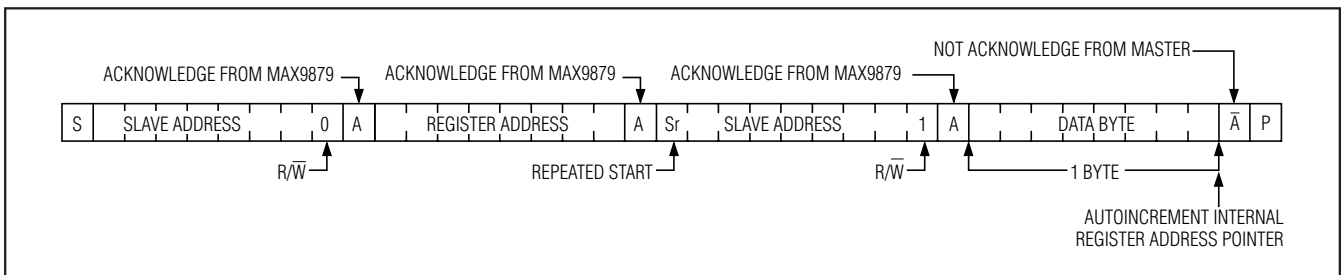
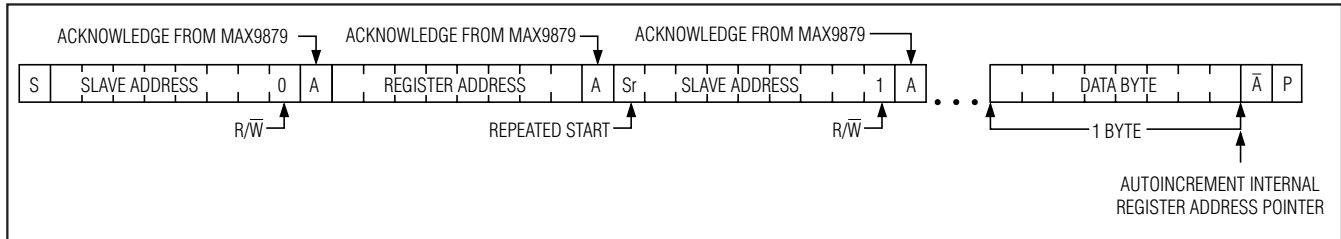

Figure 11. Reading One Indexed Byte of Data from the MAX9879
Figure 12. Reading n Bytes of Indexed Data from the MAX9879
The address pointer can be preset to a specific register before a read command is issued. The master presets the address pointer by first sending the MAX9879's slave address with the R/\bar{W} bit set to 0 followed by the register address. A REPEATED START (Sr) condition is then sent followed by the slave address with the R/\bar{W} bit set to 1. The MAX9879 then transmits the contents of the specified register. The address pointer autoincrements after transmitting the first byte. The master acknowledges receipt of each read byte during the acknowledge clock pulse. The master must acknowledge all correctly received bytes except the last byte. The final byte must be followed by a not acknowledge from the master and then a STOP (P) condition. Figure 11 illustrates the frame format for reading one byte from the MAX9879. Figure 12 illustrates the frame format for reading multiple bytes from the MAX9879.